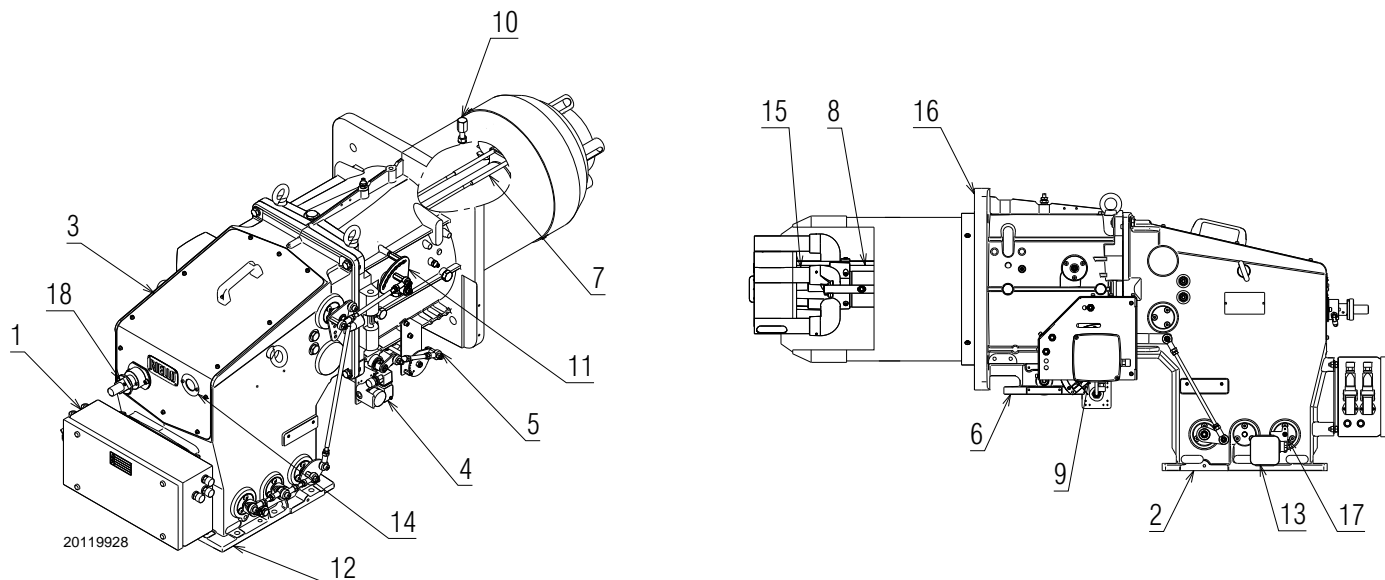

Fig. 8
(1) Reference conditions: Ambient temperature 20°C - Gas temperature 15°C - Barometric pressure 1013 mbar - Altitude 0 m a.s.l.
(2) Pressure at the test point (Fig. 8) with zero pressure in the combustion chamber and at the maximum output of the burner.
The dimensions of the flange are shown in Fig. 8, page 13.